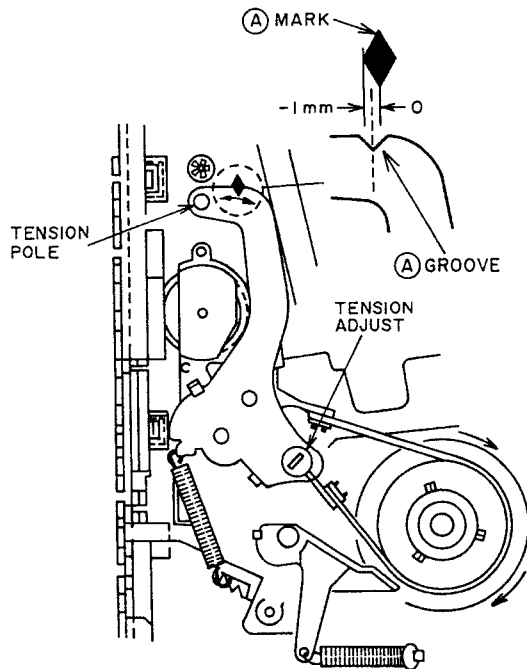

Fig. 4-1
- 3) Confirm the distance between (A) groove on the TENSION ARM and the (A) mark on the MECHA. CHASSIS so that the distance should be within the value shown in Fig. 4-1